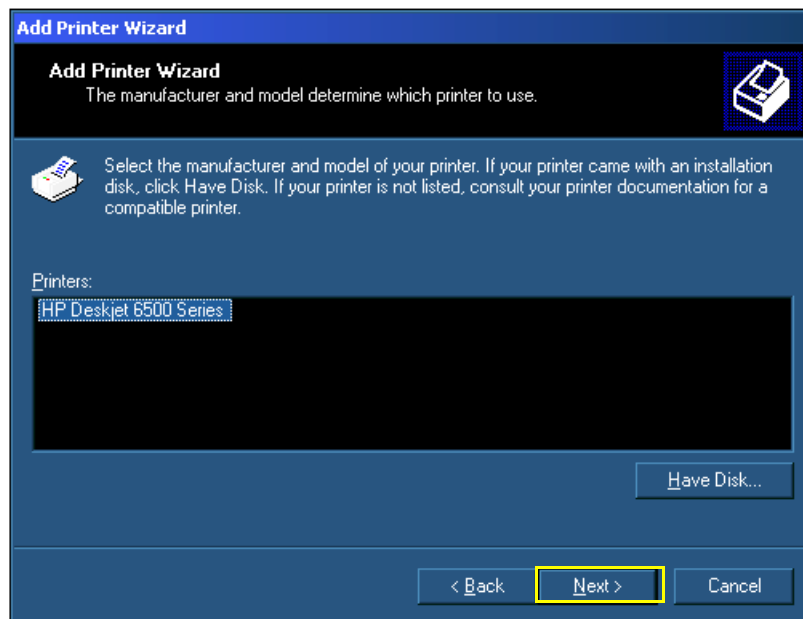

Figure 8-141 Printer Manufacturer and Model
14.) From the list of Printers, highlight the **HP Deskjet 6500 Series** - see Figure 8-141.